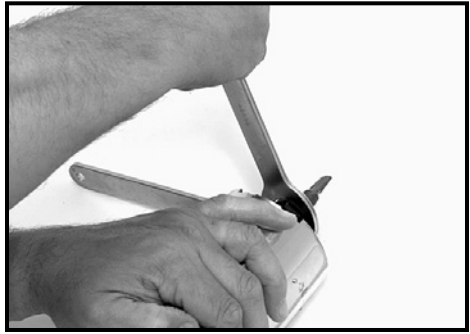

Fig. 4
1. Clean and insert shank of pocket cutting bit into the collet of the pocket cutting motor (see Fig. 4), until shank bottoms.
3. Place one of the 1¹/₈" wrenches on the flats of the chuck with the opposite end of the wrench resting on the bench to your left (see Fig. 4).
4. Place the other 1¹/₈" wrench on the collet nut and tighten securely by turning COUNTERCLOCKWISE as shown in Fig. 4.